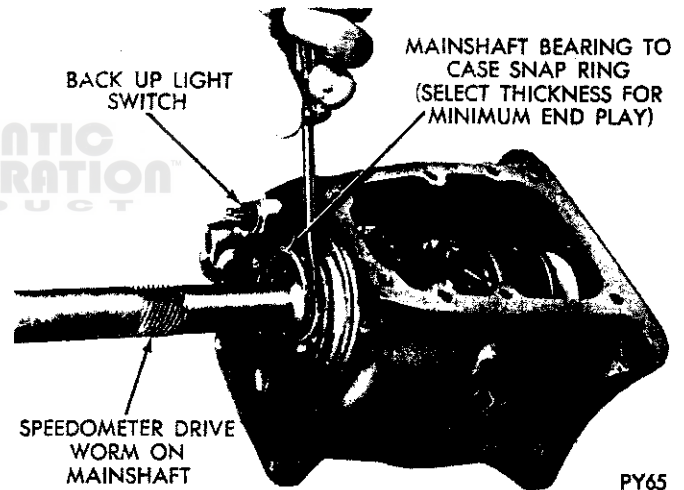

Fig. 21—Removing Mainshaft to Case Snap Ring
- (2) Remove mainshaft bearing retaining snap ring from case (Fig. 21).
- (3) Slide mainshaft and bearing rearward out of